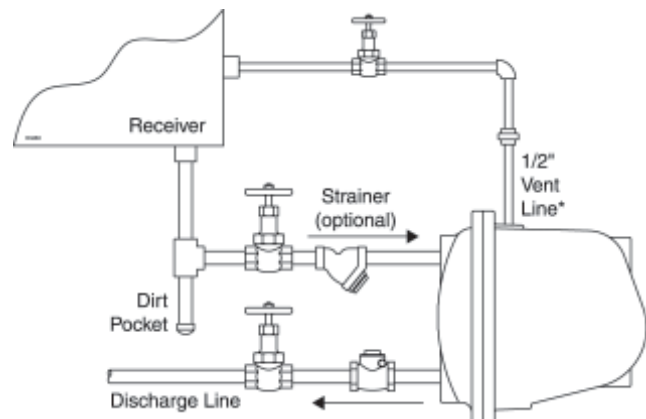

Figure 2
- C) **Liquid Drainer.** Install the liquid drainer with its inlet connection below the liquid level in the equipment to be drained. Figure 2 shows recommended piping for a liquid drainer.
- 5) **Liquid Drainers** must be back-vented to avoid air binding. **DO NOT** reduce pipe size for the back vent, but use the full 1-1/2" pipe, connected as shown in Figure 2. Use a full-ported valve in the back-vent line.